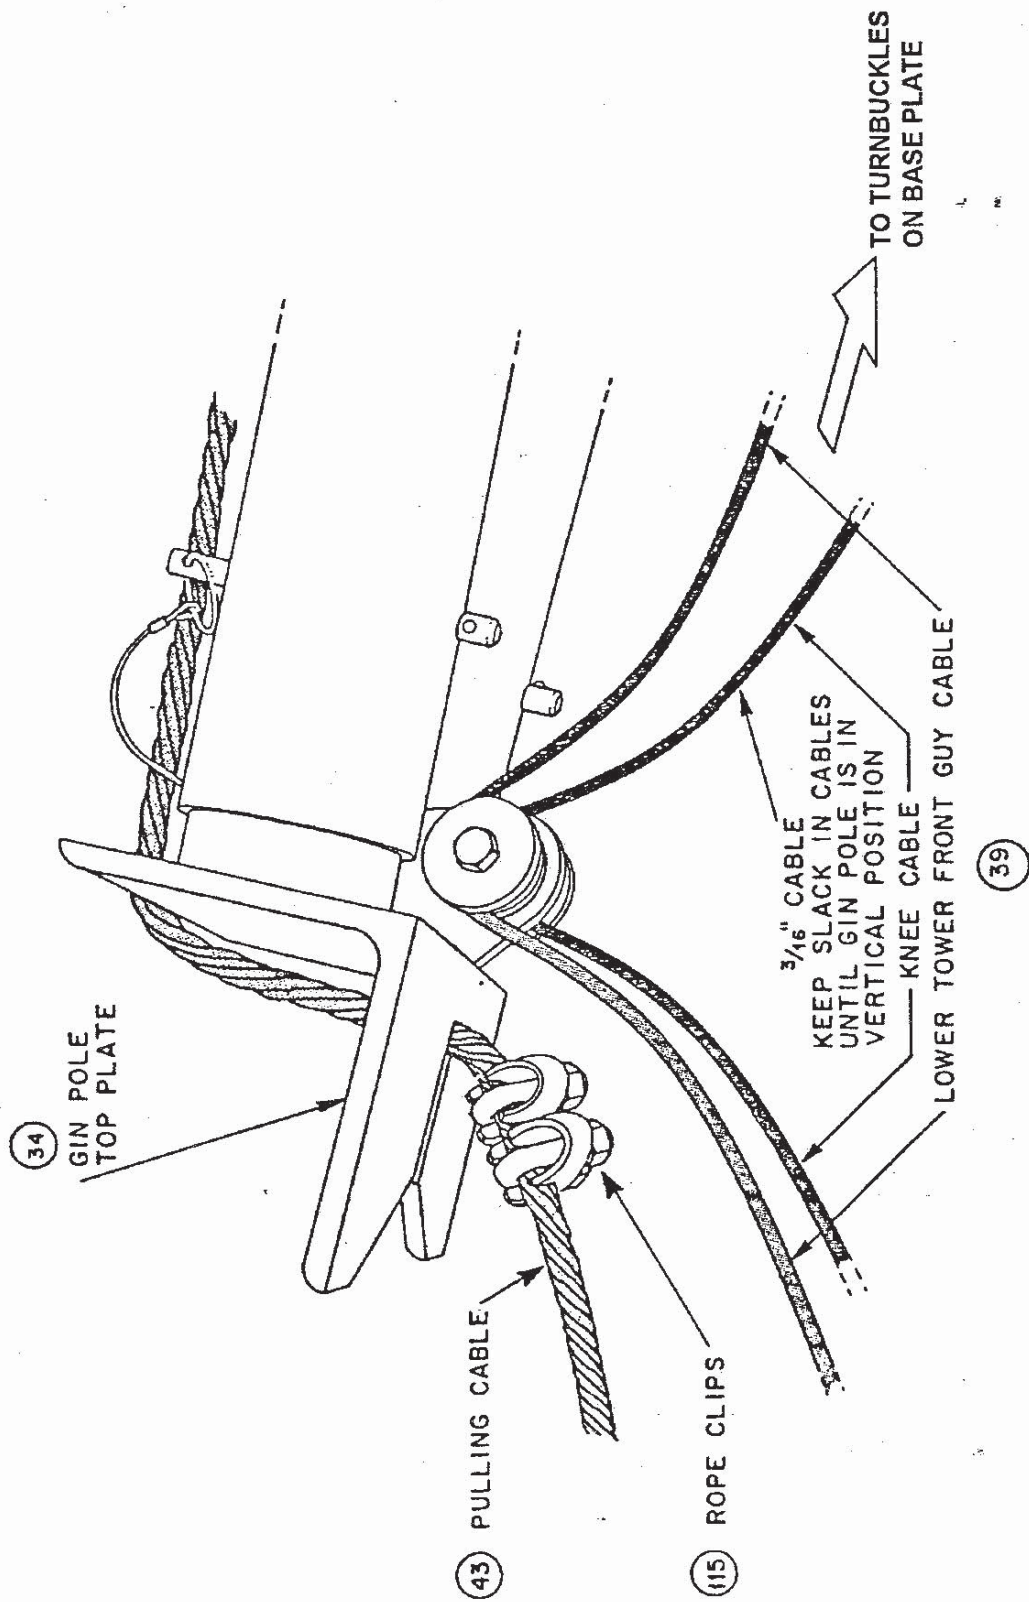

Figure 2-16
- h. One man will route the knee cables (knee cable and lower front guy wire) from the tower to the top of the gin pole. Each cable runs over one of the cable rollers at the gin pole top plate and down the gin pole leg nearest its respective cable roller (Figure 2-16).